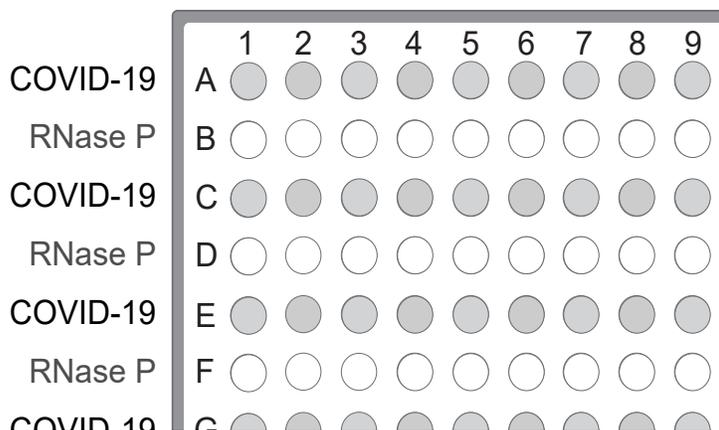

Figure 7 Assays in alternating plate rows
- Starting with row A, pipet 15.0 μ L per well of the COVID-19 Reaction Mix into every other row of a MicroAmp™ Optical 384-Well Reaction Plate with Barcode. See Figure 7 on page 60. A MicroAmp™ Optical 384-Well Reaction Plate can be used (see “Required materials not supplied” on page 12).